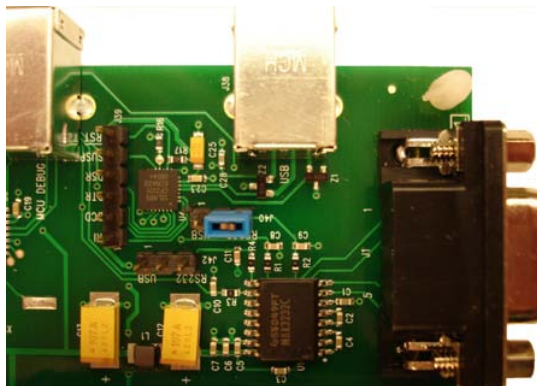

Figure 3-5. Jumper Set For RS-232 Serial Communications
- To use the RS-232 serial interface with the test tool, jumper J40 2-3 should be installed as shown in Figure 3-5 below.